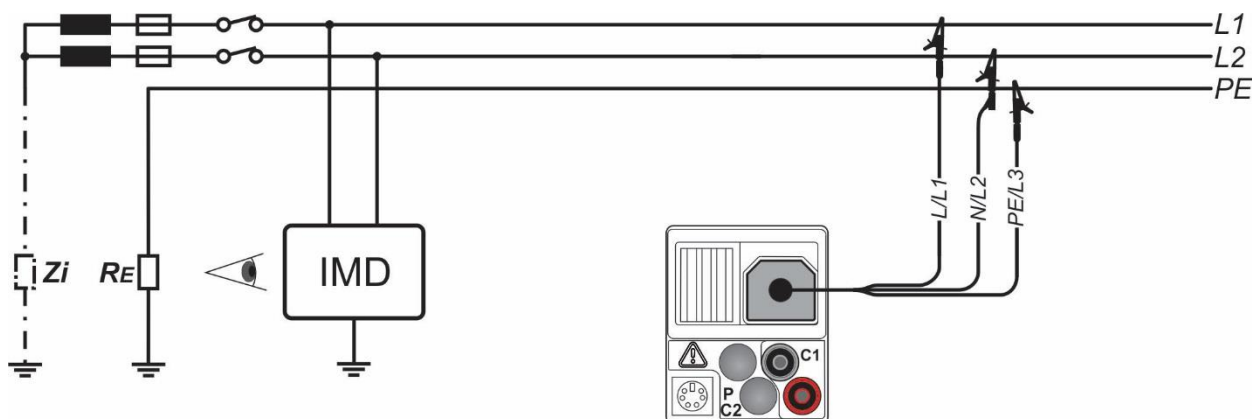

Figure 5.58: Connection with 3-wire test lead
- ❑ **Connect** 3-wire test lead to the instrument and tested item (see Figure 5.58).